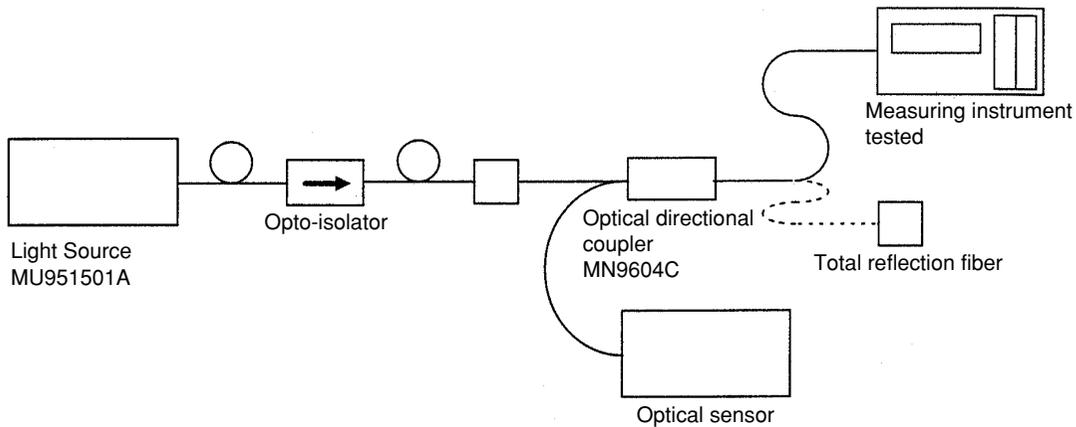

Fig. 5-3
1. Set up a measurement system as that shown in Fig. 5-3.